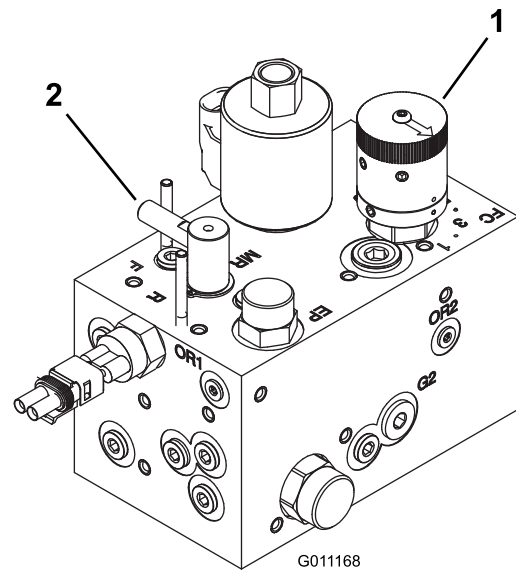

Figure 47
- Turn the reel speed control knob (Figure 47) to the number setting determined in Step 1.